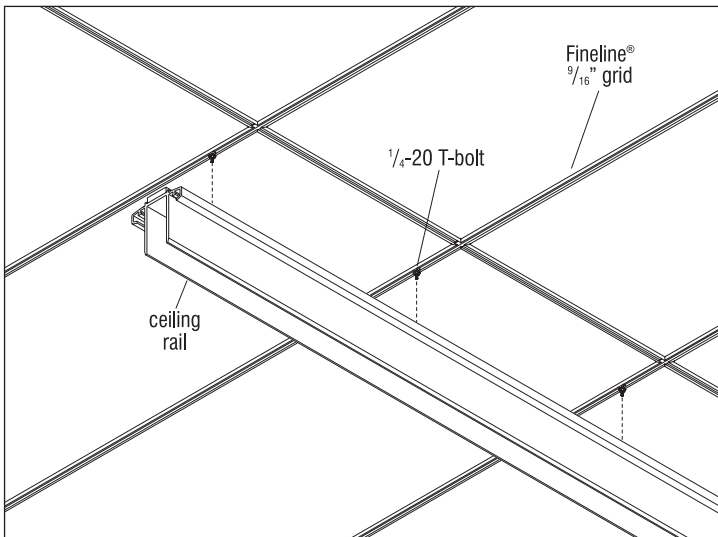

Figure 4
- Measure from wall, column or other starting point to the first attachment point. Cut ceiling rail accordingly so that the slots in the rail match the grid layout (Figure 4).